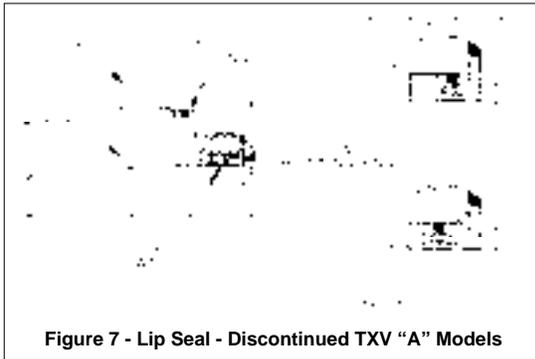

Figure 7 - Lip Seal - Discontinued TXV "A" Models
- On TXV "A" model pumps, insert the spacer washers (152F) into the housing, then push the lip seal (152A) squarely into the housing (152B) with flat side of the lip seal against the spacer washers. The lip seal should seat flush or slightly recessed in the housing, around its **entire** diameter. **Note:** If necessary, the spacer washers can also be located *after* the lip seal, as shown in Figure 7, to re-position the lip seal on the pump shaft.
- Install new housing O-ring(s) (152C and 152E) in the groove(s) of the housing. Lightly grease the housing O-ring(s) and push the lip seal and housing assembly into the head recess with the lip seal inward. The lips of the lip seal will face the rotor when the housing is installed. Make sure the housing is bottomed out in the back of the head (20).